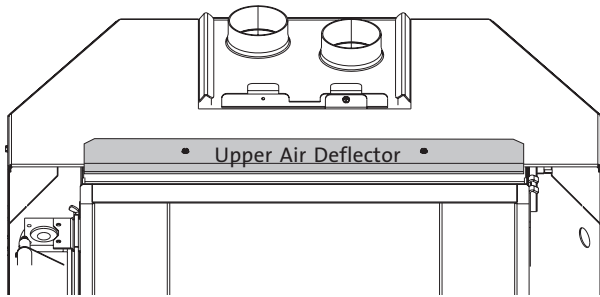

Figure 3. Remove Upper Air Deflector.
2. Use the 1/4" wrench or socket driver to remove the upper air deflector. The deflector will not be used with the cast iron surround. See fig. 3.